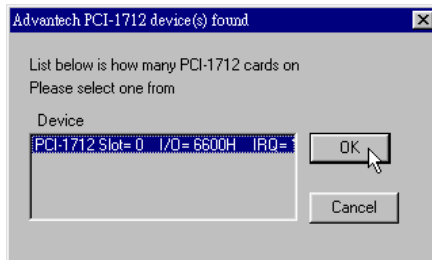
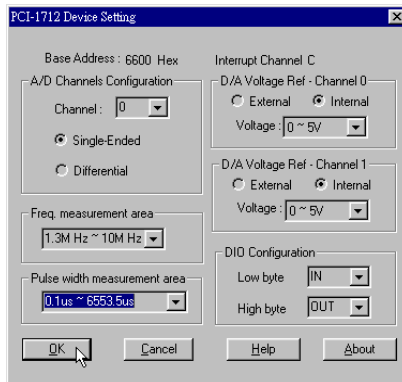

Figure 2-6: The “Device(s) Found” dialog box
Figure 2-7: The Device Setting dialog box
Step 3: Scroll down the *List of Devices* box to find the device that you wish to install, then click the **Add** button to evoke the *Device(s) Found* dialog box such as one shown in Fig. 2-6. The *Device(s) Found* dialog box lists all the installed devices on your system. Select the device you want to configure from the list box and press the **OK** button. After you have clicked **OK**, you will see a *Device Setting* dialog box such as the one in Fig. 2-7.
Step 4: On the *Device Setting* dialog box (Fig. 2-7), you can configure the parameters of A/D, D/A, DIO and Counter functions.